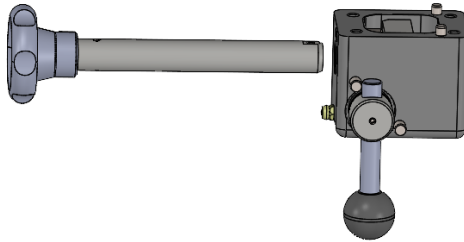

Figure 4: Removing jaw block shaft
4. Rotate the CAM-locking handle so it is vertical and unlocked (*Figure 4*) and pull out the sliding jaw block shaft.